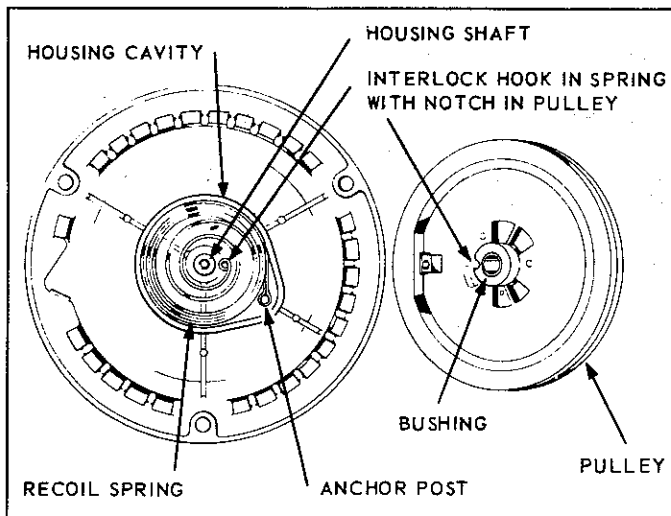

FIG. 6
Prevent recoil spring from escaping from housing by carefully lifting pulley about 1/2 inch and then detaching inside *spring hook* from pulley, with a screw driver. *Note*: If spring should escape, it can easily be replaced into cover by coiling in the turns. See Fig. 6, for proper direction of spring coiling. If it is necessary to remove spring, start with the inside loop and carefully pull out one loop at a time while holding back rest of turns. When replacing spring, note the position of *spring hooks* in Fig. 6. Engine rotation is clockwise, viewed from starter end.
E. RECOIL SPRING REPLACEMENT, Fig. 6
Spring holders furnished with replacement springs simplify the assembly procedure. Place *recoil spring* in proper position as shown in *Fig. 6*, with the outside loop hooked around the *anchor post*. Then press spring into *housing cavity* thus releasing the spring holder. A few drops of SAE 20 or 30 oil should be applied to spring and light grease on housing shaft.
F. ASSEMBLY of PULLEY, Fig. 6